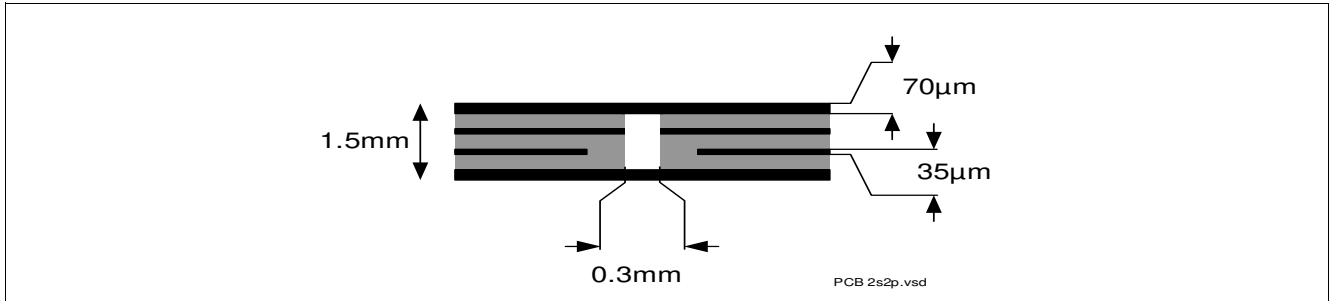

Figure 2 2s2p PCB Cross Section
2) Specified  $R_{thja}$  value is according to JEDEC JESD51-2,-5,-7 at natural convection on FR4 2s2p board; The product (chip + package) was simulated on a 76.4 x 114.3 x 1.5 mm board with 2 inner copper layers (2 x 70µm Cu, 2 x 35 µm Cu). Where applicable, a thermal via array under the exposed pad contacts the first inner copper layer. Please refer to Figure 2.